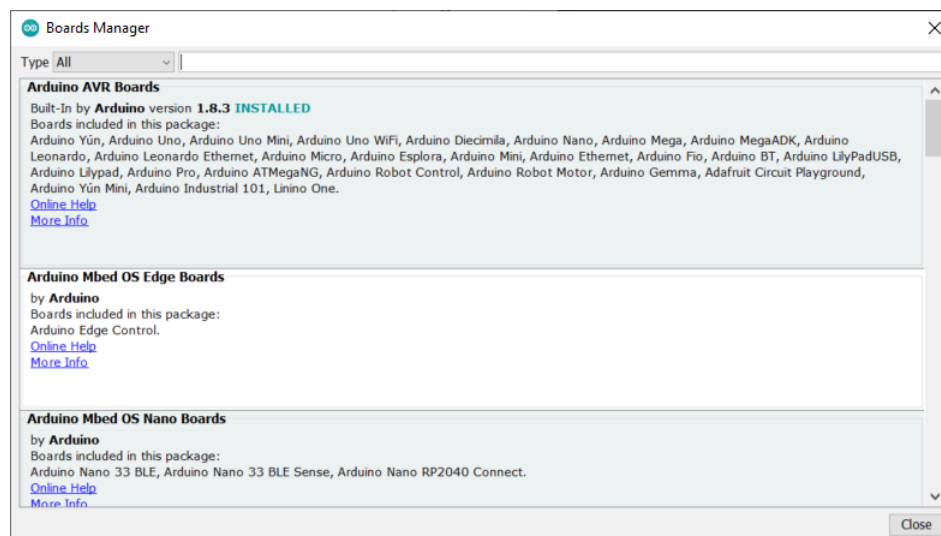

Figure 4.9: This what the Boards Manager loads up to.
- (b) It should load as shown in Figure 4.9.